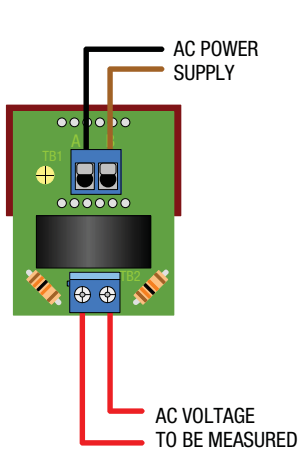

Figure 1A.
- Power Supply Polarity, Fusing, and Grounding:** As shown in Figures 1A and 1B, the two power supply inputs, TB1-A and TB1-B, on ac-powered DMS-20RM voltmeters ("-AC1" suffix) are not polarity sensitive, that is, they have no "AC LO" or "AC HI" designations. Also, ac-powered models do not include or require a connection to earth/chassis ground. DC-powered models ('-DC2' suffix) are reverse-polarity protected, and must be connected as shown in Figure 2 for proper operation. DMS-20RM ac voltmeters are not internally fused. If fusing is required it must be externally installed according to the supply wire's maximum amperage rating.